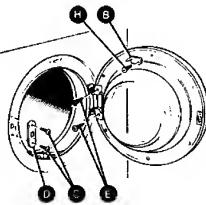

Fig. 3
- (Fig 3)
- Refit latch plate (D) and screws (C)
- Remove screw (H) at top of door and refit switch strike (B) as shown
- Fit door to hinge blocks and secure with screws (E)